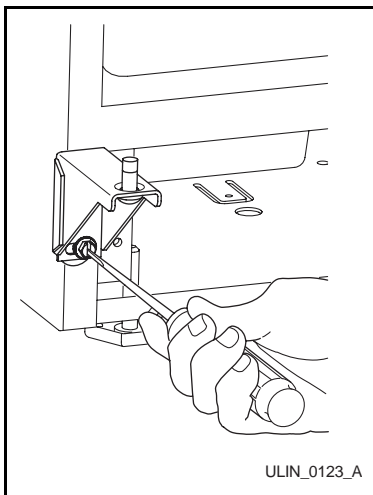

Figure 25
- Install hinge on opposite side, bottom of cabinet (Figure 25). Replace nut on back side where installed. Align hinge outer edge with cabinet before tightening screws.